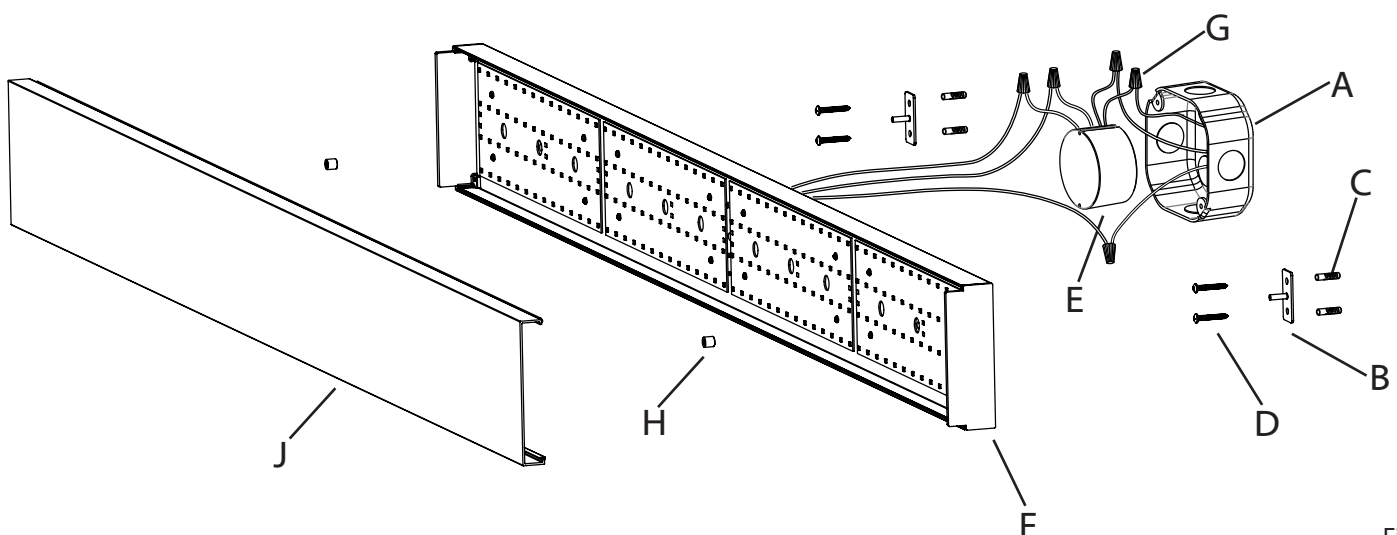

Fig. 2
3. Attach the mounting plates (B) to the wall with anchors (C) and screws (D) (Fig. 2).
- a. Connect the LED driver's (E) live wire (black) to the live outlet box wire.
- b. Connect the LED driver's (E) neutral wire (white) to the neutral outlet box wire.
- c. Connect the fixture's ground wire (green or uncoated) to the ground outlet box wire. If no ground is present in outlet box, connect fixture's ground wire to the ceiling plate (B) using the green screw (included).
- e. Carefully place connections and LED driver in outlet box (A).
5. Place fixture (F) to the stud on mounting plates (B), secure with finials (H).
6. Snap the acrylic diffuser (J) on to the fixture (E) (Fig. 2).